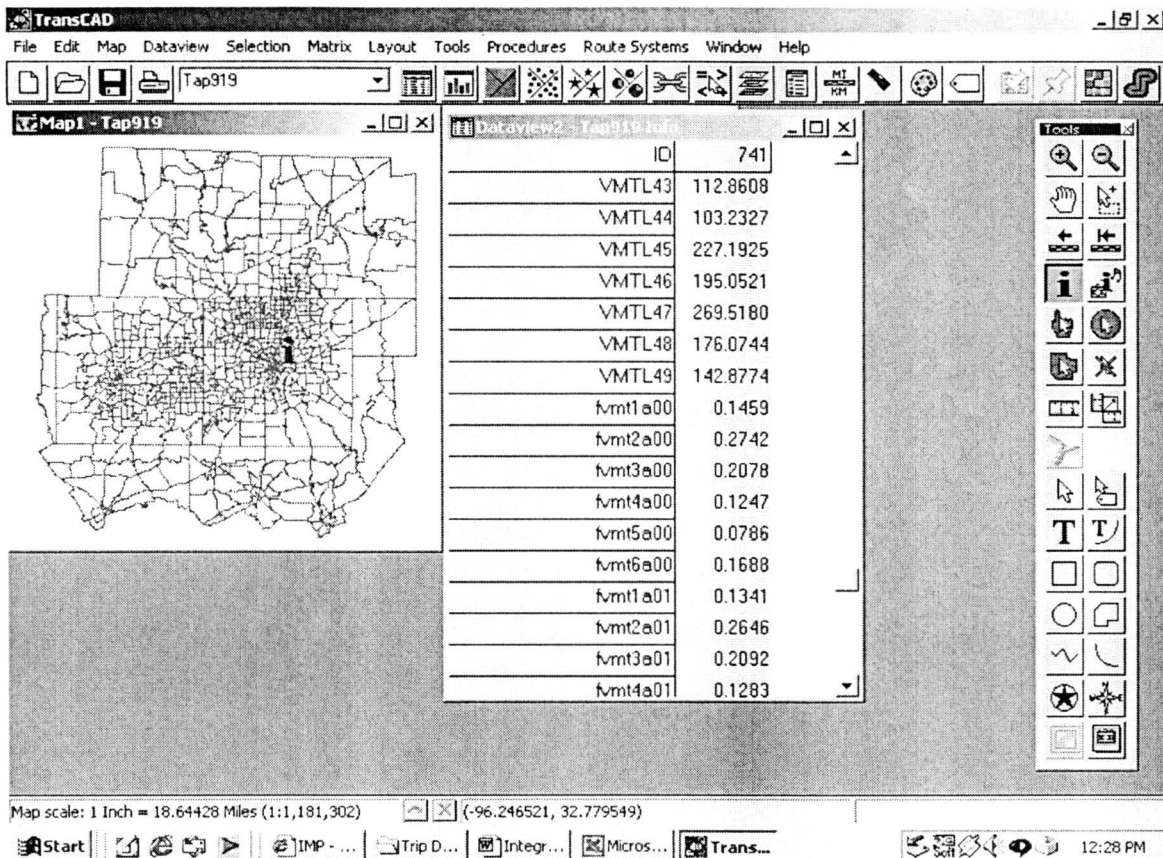

Figure I-2. Some DFW trip time duration model results
3. The Figure below (Figure I-2) is an illustration of what the user can expect to see when the above two steps have been completed.